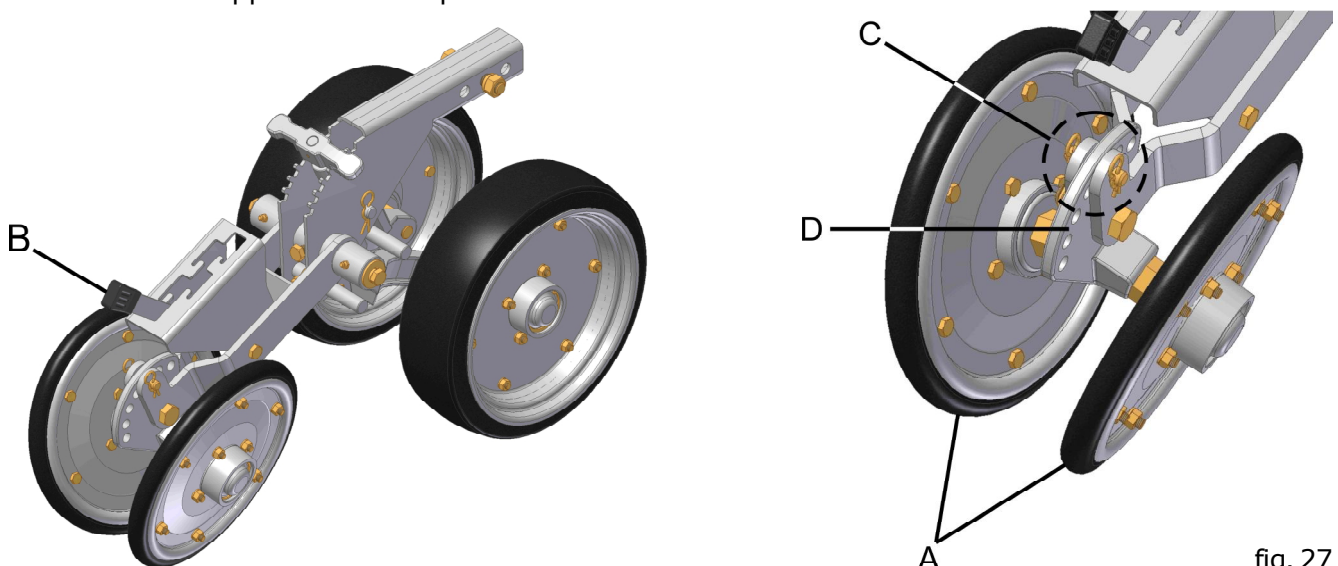

fig. 27
The press wheels in "V" shape (A) (fig. 27), carry out the ground pressure laterally in the seed and work with several options, according to the conditions of the soil, straw, moisture, etc.